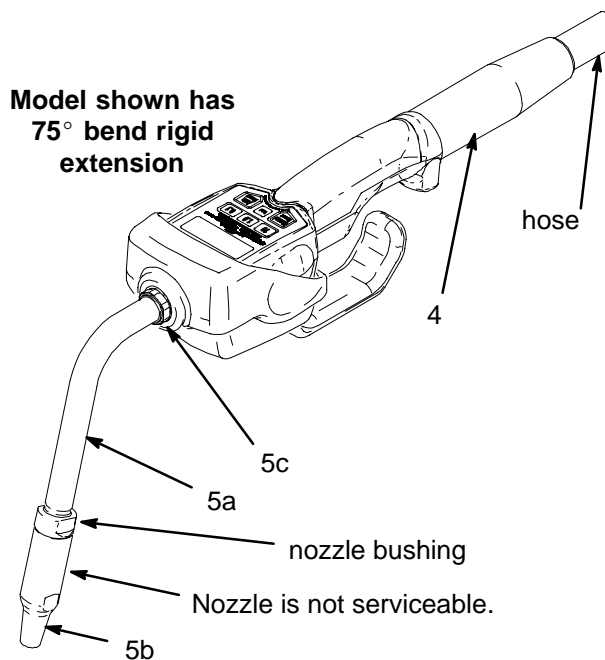

Fig. 4
- Thread the sealing nut (5c, 6c, or 7c) onto the extension (5a) or street elbow (6d or 7d), thread the extension or elbow in at least three full turns, position it for proper alignment, and tighten the sealing nut. The Teflon® seal on the sealing nut must face the valve housing. See Fig. 4.
- Thread the new nozzle (5b, 6b, or 7b) onto the extension, and, with an open-end adjustable wrench, tighten it firmly. See Fig. 4.